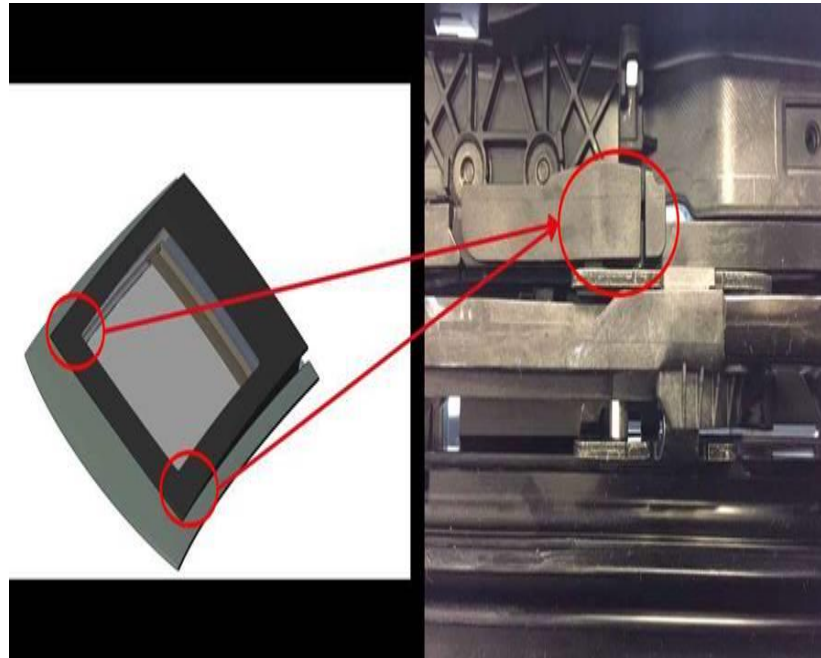

Figure 3. The locking mechanism in the guide rail.
4. Completely open the glass lid. The picture (Figure 3) shows the locking mechanism in the guide rail.